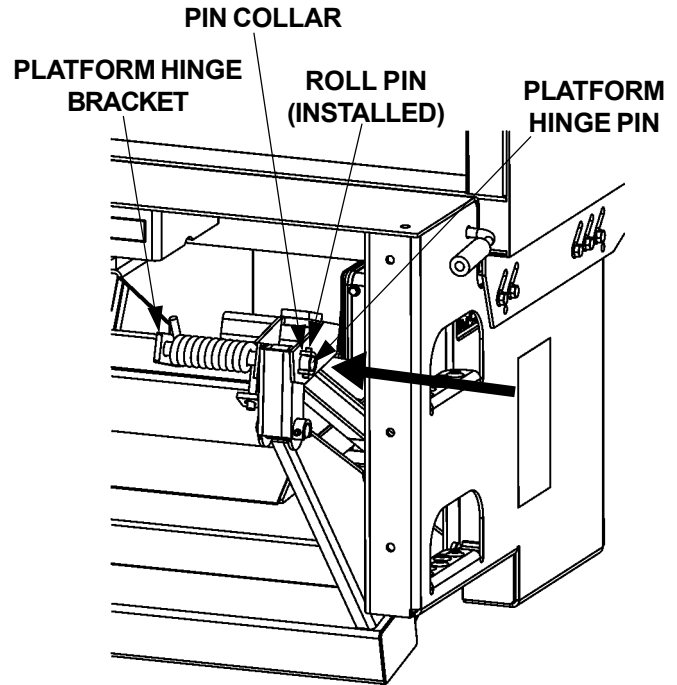

FIG. 15-1
5. Drive Platform Hinge Pin inboard to correct position through the Platform Hinge Bracket (**FIG. 15-1**). Line up the hole in the Platform Hinge Pin with the hole in the Pin Collar. Install the roll pin through the Pin Collar until roll pin protrudes equally from both sides of the collar (**FIG. 15-1**).